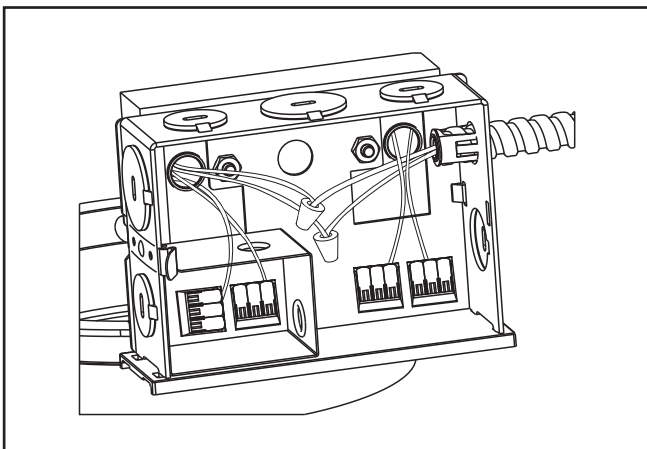

Figure 12
- Remove junction box cover (Figure 12.).